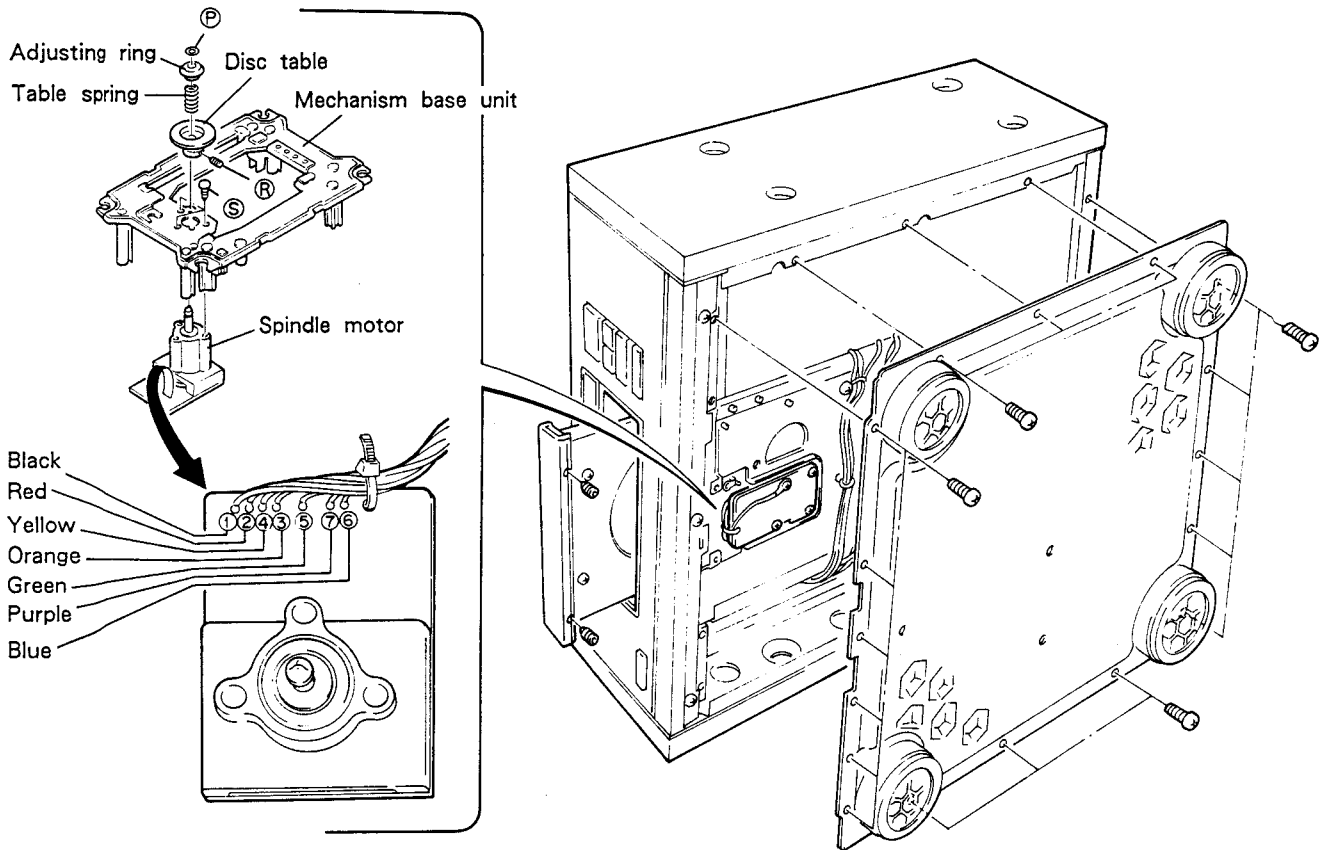

Fig. 2-5.
2. Remove the split washer ① fixing the adjusting ring. (Refer to Fig. 2-5.)
4. Loose the screws ② of the disc table from the opening part of the front panel with the hexagonal driver and remove the disc table.
5. Remove the fixing screws ③ (3) of the spindle motor.
6. Remove the lead wires (7) wired as shown in Fig. 2-5, with a soldering iron.